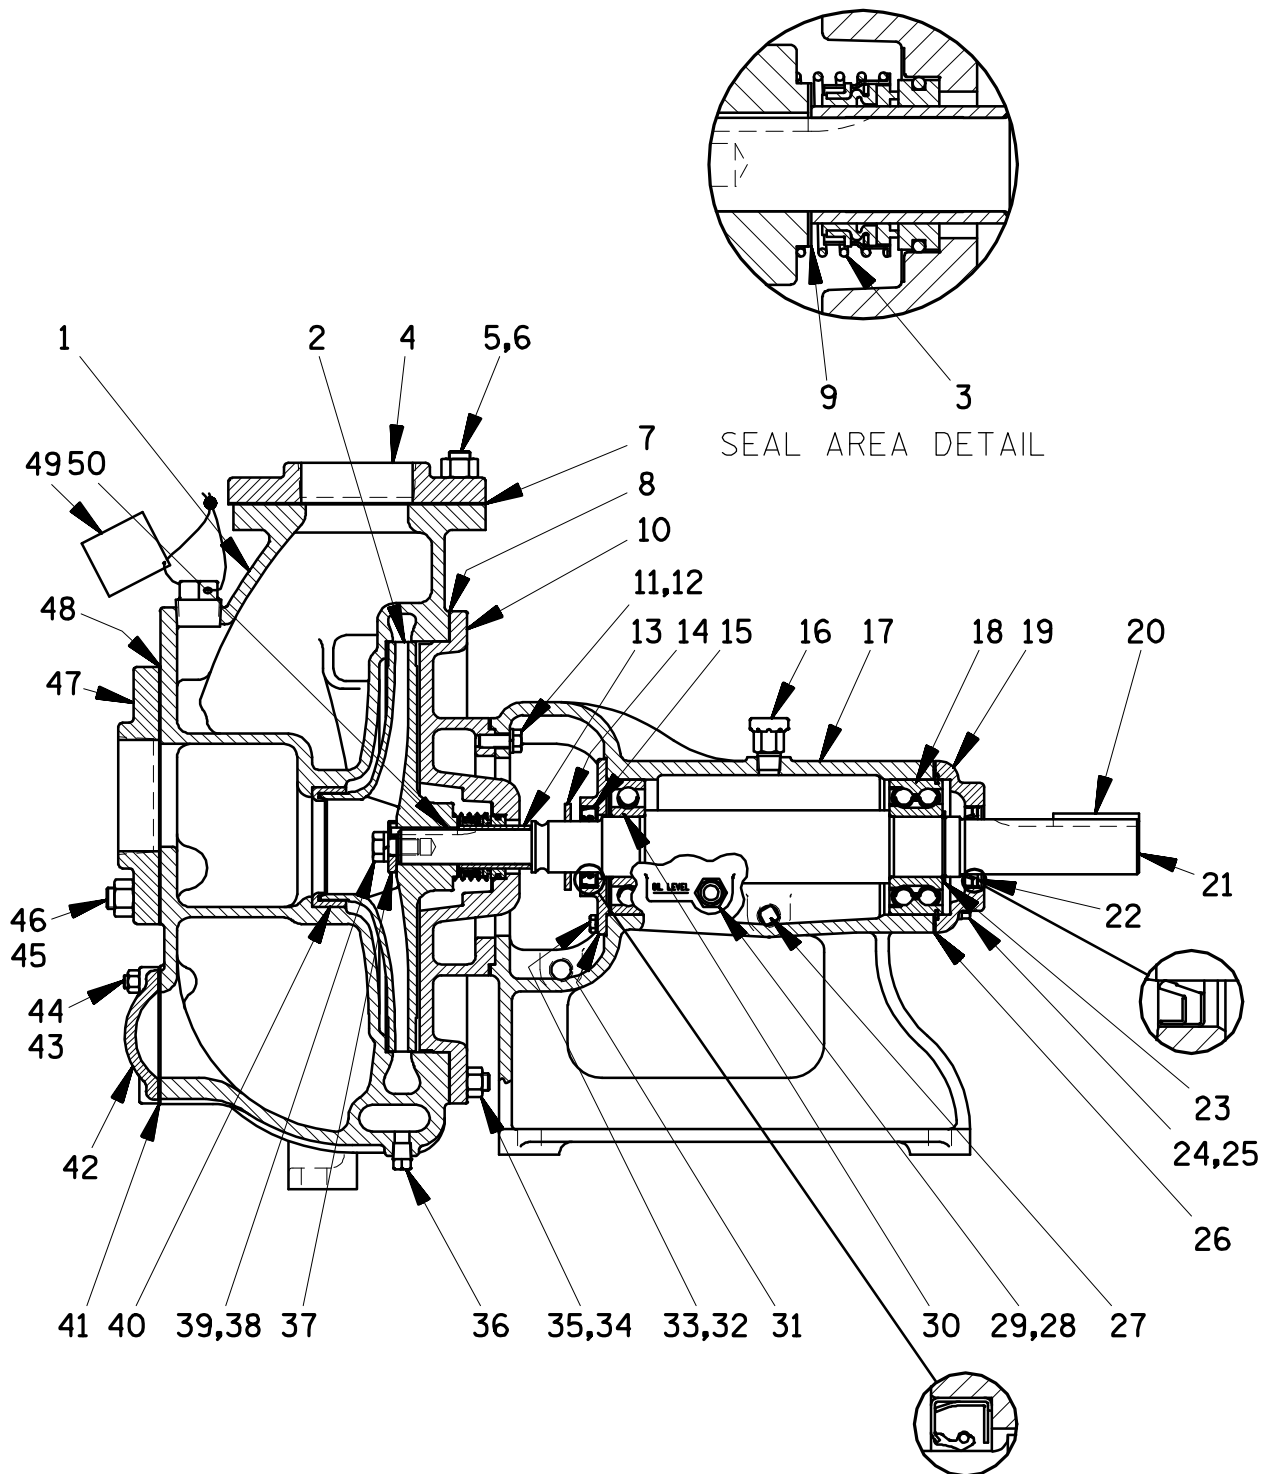

Figure 1. Pump Model 03A3-B
This pump requires little service due to its rugged, minimum-maintenance design. However, if it becomes necessary to inspect or replace the wearing parts, follow these instructions which are keyed to the sectional view (see Figure 1) and the accompanying parts list.
(Figures 1 and 2)
Position the oil seal (15) in the bearing cap (31) with the lip positioned as shown in Figure 1. Press the oil seal into the bearing cap until the face is **just flush** with the interior surface of the bearing cap.